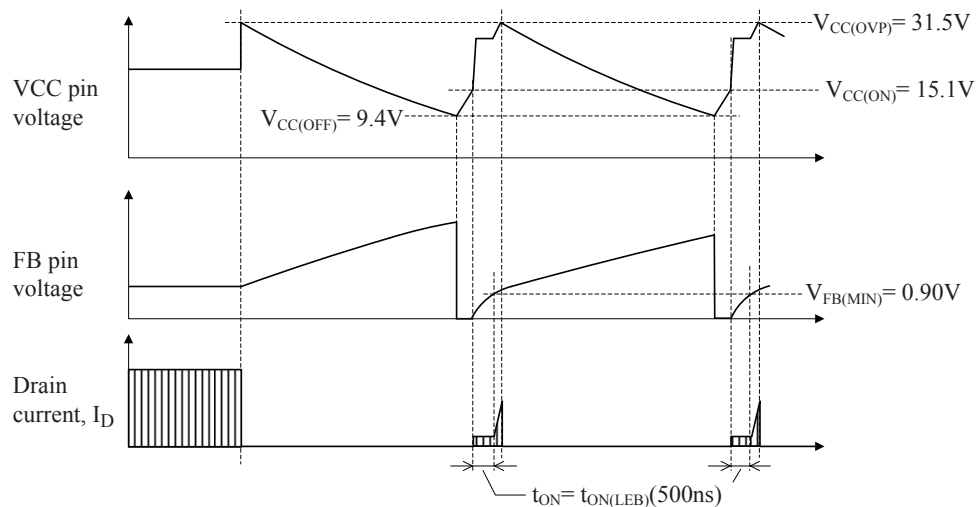

Figure 37. Waveforms when VCC pin OVP is being activated (LC552xD and LC552xF)
- **VCC Pin Overvoltage Protection.** figure 37 shows the waveforms of the OVP function. When the VCC pin voltage with reference to the S/GND pin reaches and exceeds $V_{CC(OVP)} = 31.5\text{ V}$ or more, OVP is activated and the IC stops switching operation.